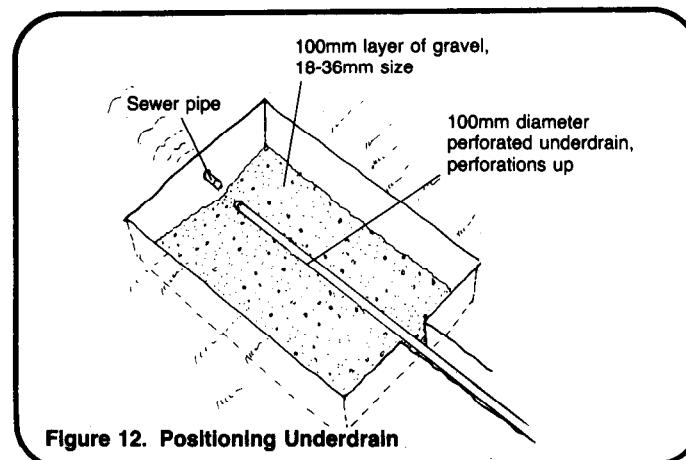

Figure 12. Positioning Underdrain
4. Placing the Filter Sand. Partially fill the excavation with 600-900mm of selected filter sand. See Figure 12. This sand must be approved by the engineer before it is put in the system. Flood the system with clean water to settle the sand.